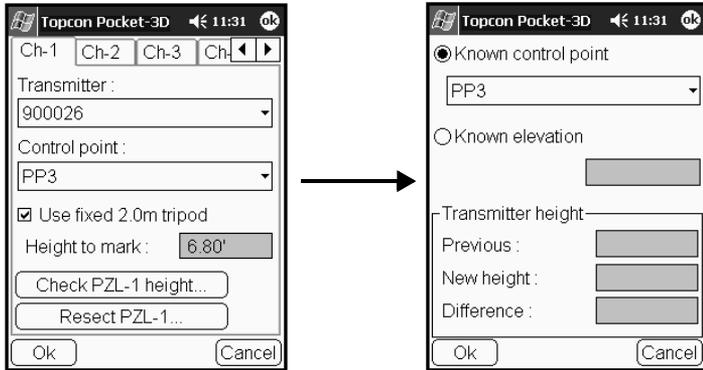

Figure 4-3. Begin Height Check
3. In Pocket-3D, tap **Setup ▶ LaserZone transmitters** and tap the tab that corresponds to the channel of the transmitter (Figure 4-3 on page 4-5).
4. Press **Check PZL-1 height** (Figure 4-3 on page 4-5).
5. Use one of the following options to enter the location or elevation of the point (Figure 4-3 on page 4-5):